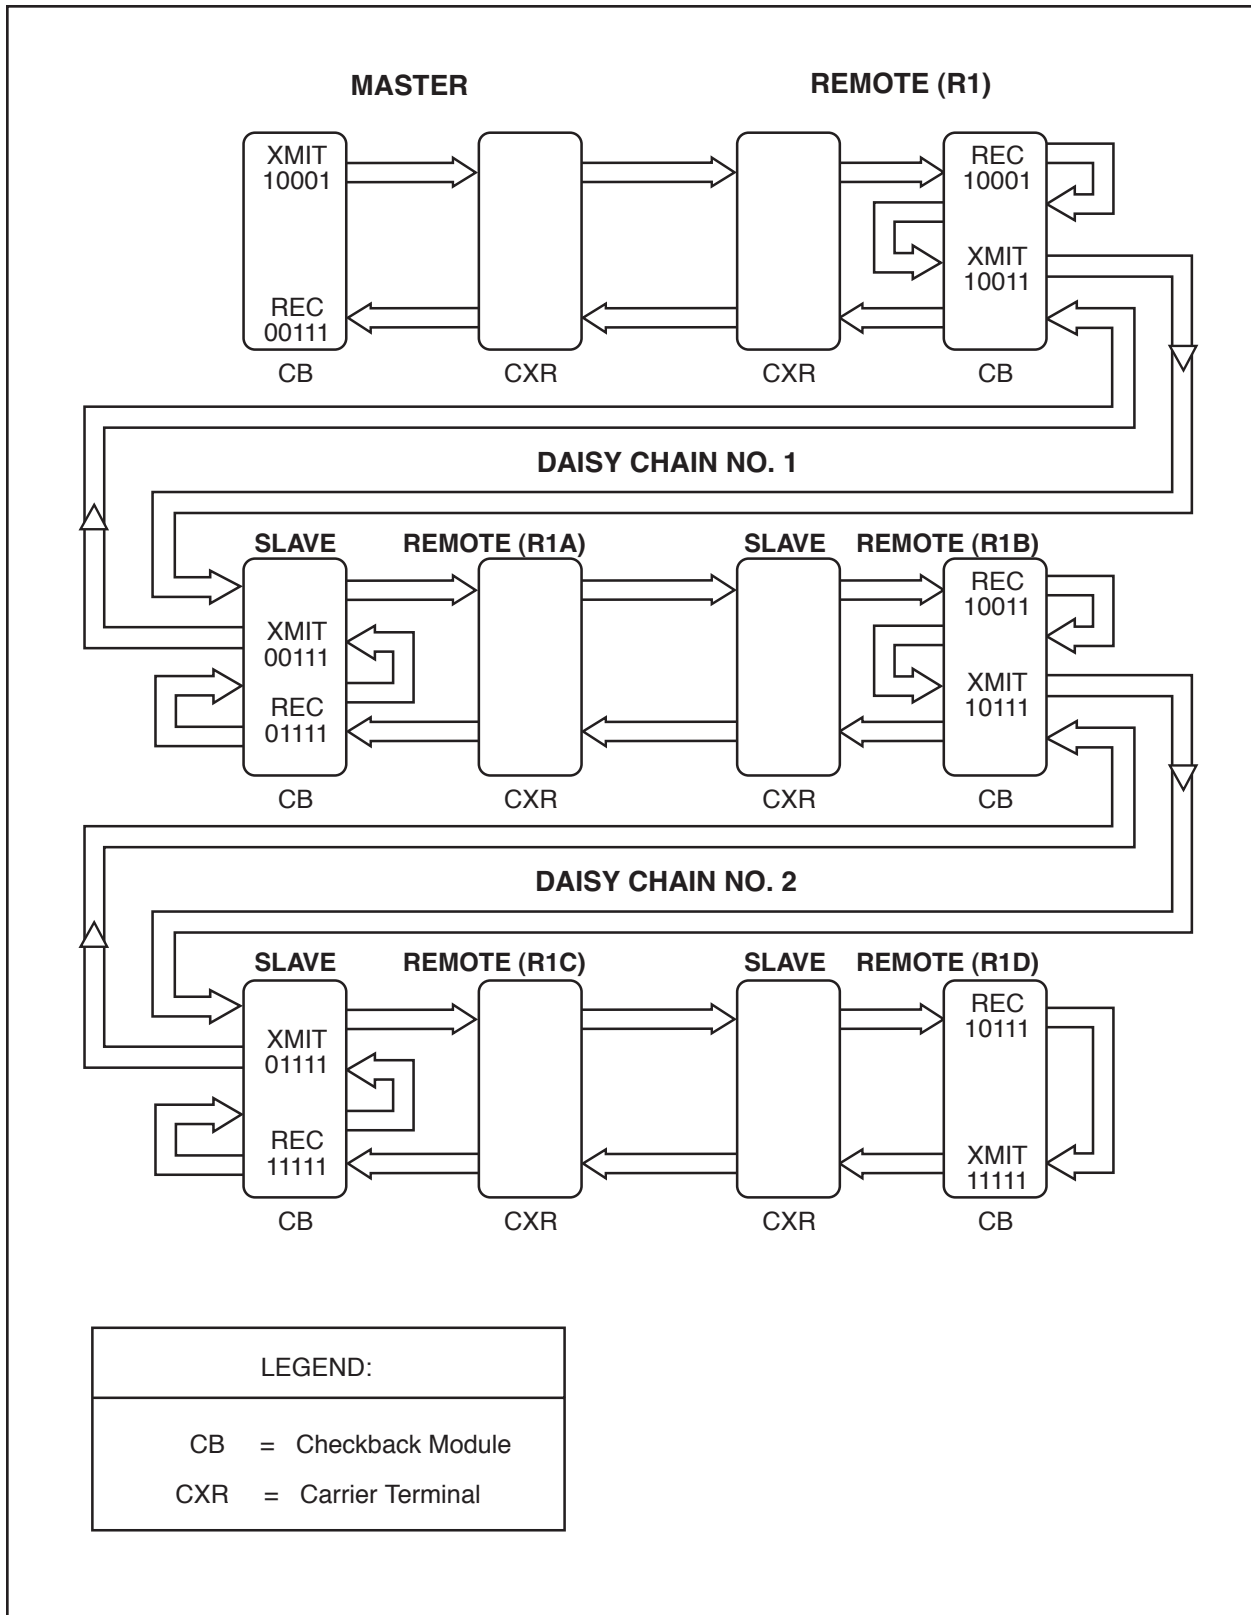

Figure 17-5. Example of Matching Addresses Using Two Daisy-Chain Sets (Four Slave Remotes). (9647A74)
4. Using jumper JU2, select the System Configuration type—with or without daisy chaining, i.e., without Slave Remotes (see Figure 17-1, Figure 17-5, and Figure 17-13):
If you are not using Slave Remotes, the Remote System (REC) address must be identical to the Master System (XMIT) address. If you are using Slave Remotes, see Figure 17-5 for an example of an addressing scheme.